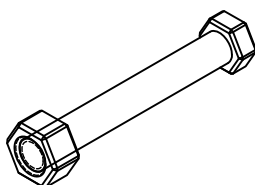

Figure 4: Nut and bolt assembly.
2. **Thread** the nut onto the end of the bolt to protect the threads. (Figure 4)